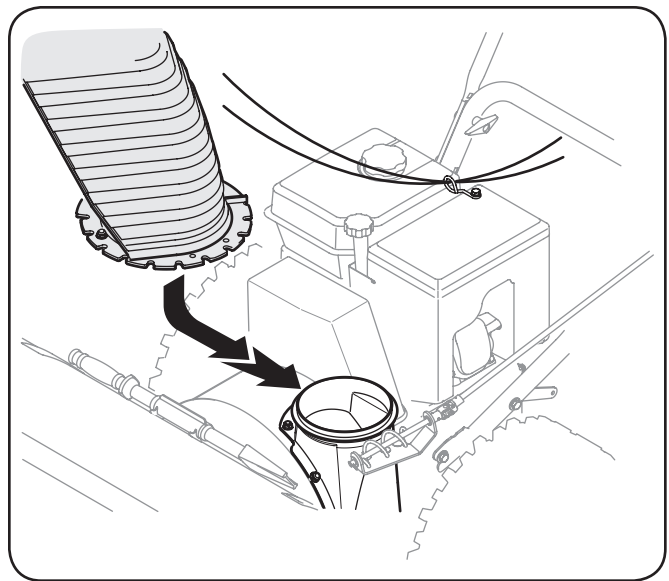

Figure 3-6
2. Place chute assembly onto chute base as shown in Figure 3-6. Make sure that the chute notches engage with the spiral end of chute directional control, and the two flange keepers are beneath the flange on the chute base.
4. Check that the chute cables are properly routed through the cable guide attached to the lower handle assembly. See Figure 3-6.